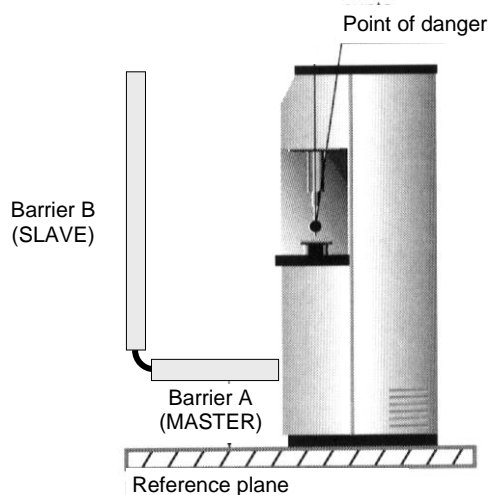

Figure 3
The most common application is shown in Figure 3: the horizontal light curtain (A) has been installed to detect the presence of a person between the vertical light curtain (B) and the dangerous machine at system power-up or restart.